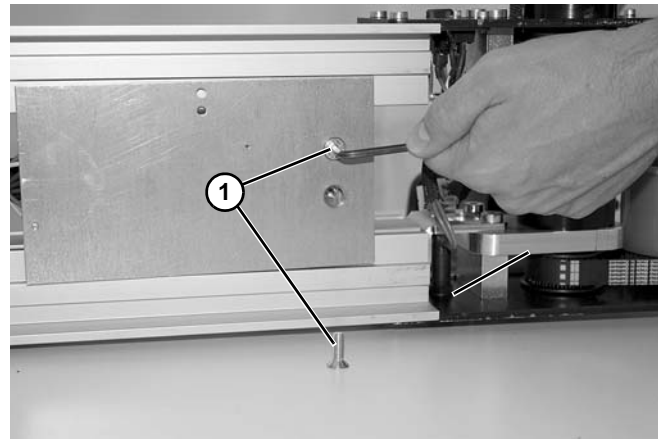

Figure 155
- Remove flat head screws (Figure 155, item 1).